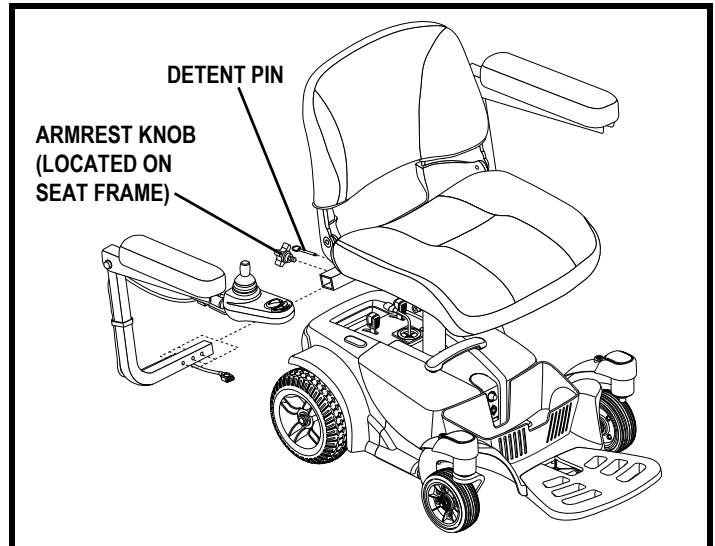

Figure 14. Armrest Width Adjustment
1. Locate the two armrest knobs on each side of the armrest receiver bracket. See figure 14.